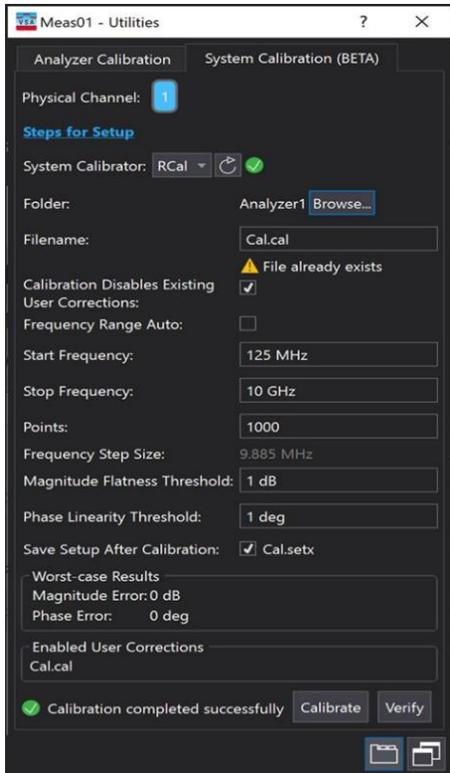

Figure 5. Perform Receiver Calibration with RCal
1. Under the 89600 VSA Utilities menu, select “System Calibration,” and then choose the RCal Calibrator as you add previously in Hardware Configuration. This action will open a dialogue as shown in Figure 5.